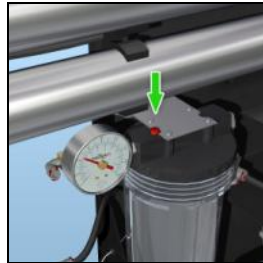

Figure 13. Press red button on filter
4. Press the red button on top of your pre-filter and observe the pre-filter filling up with water; **see figure 13**.